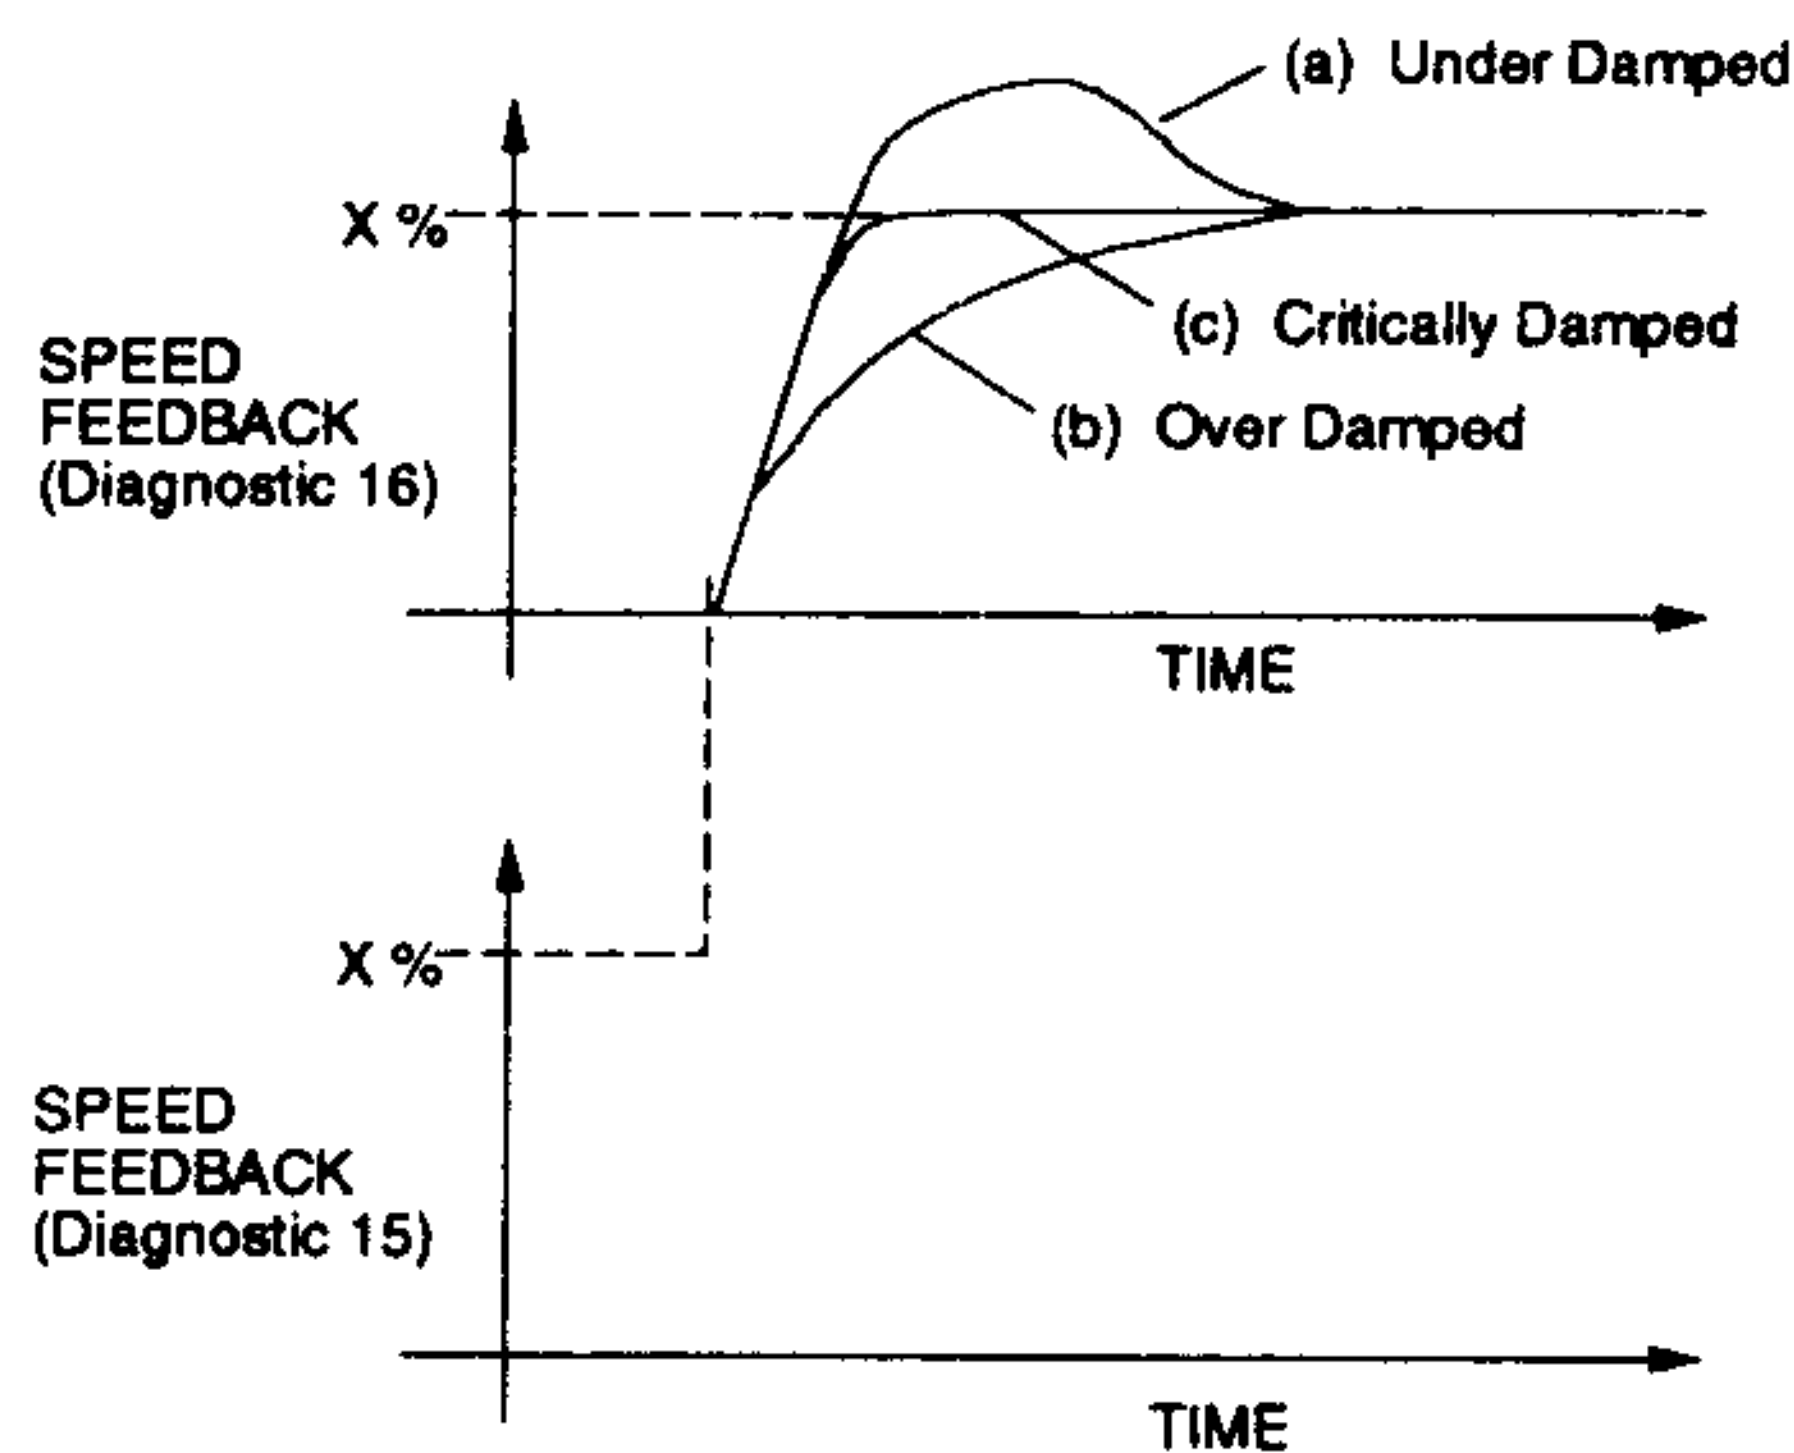

FIGURE 4 TYPICAL SPEED RESPONSE CURVES
4.4.9 Reconnect the supplies and initiate Start. Apply a small set change (about 20%) to the Speed Setpoint input and observe the speed response. If necessary adjust the Speed Proportional and Speed Integral presets (P5 and P6) gradually to obtain a Critically Damped performance i.e the fastest response possible without overshoot, as shown in Figure 4, Curve (c). In general, clockwise rotation of the presets will improve the rate
of response, but advancing the controls too far will tend to introduce overshoot. The optimum setting of P5 and P6 will be a compromise between the two extremes shown in Curves (a) and (b), Figure 4.